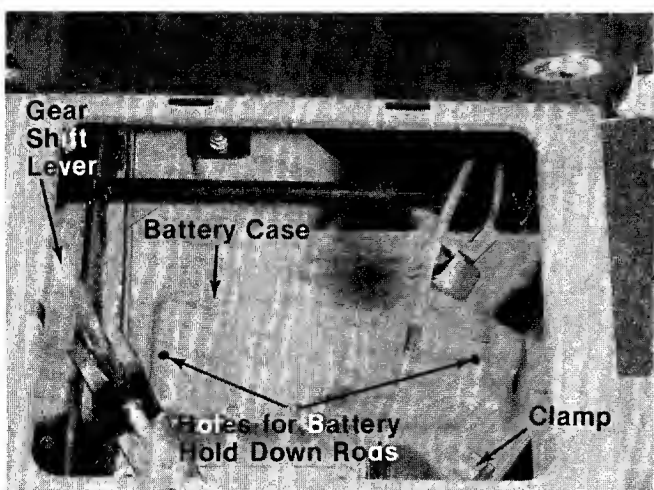

FIGURE 9.
4. Move the shift lever all the way to the left. See figure 9.
Figure 9 shows the battery case, two holes for battery hold down rods and rubber tubing clamp. We are calling these items to your attention before the battery is in place.